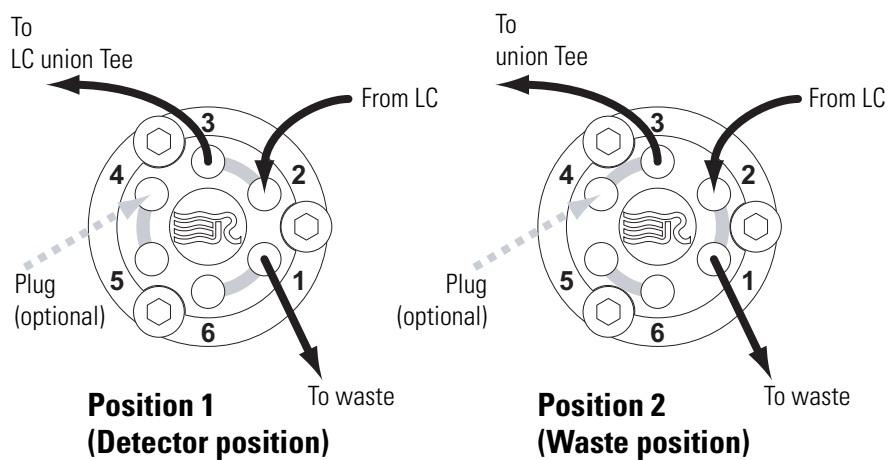
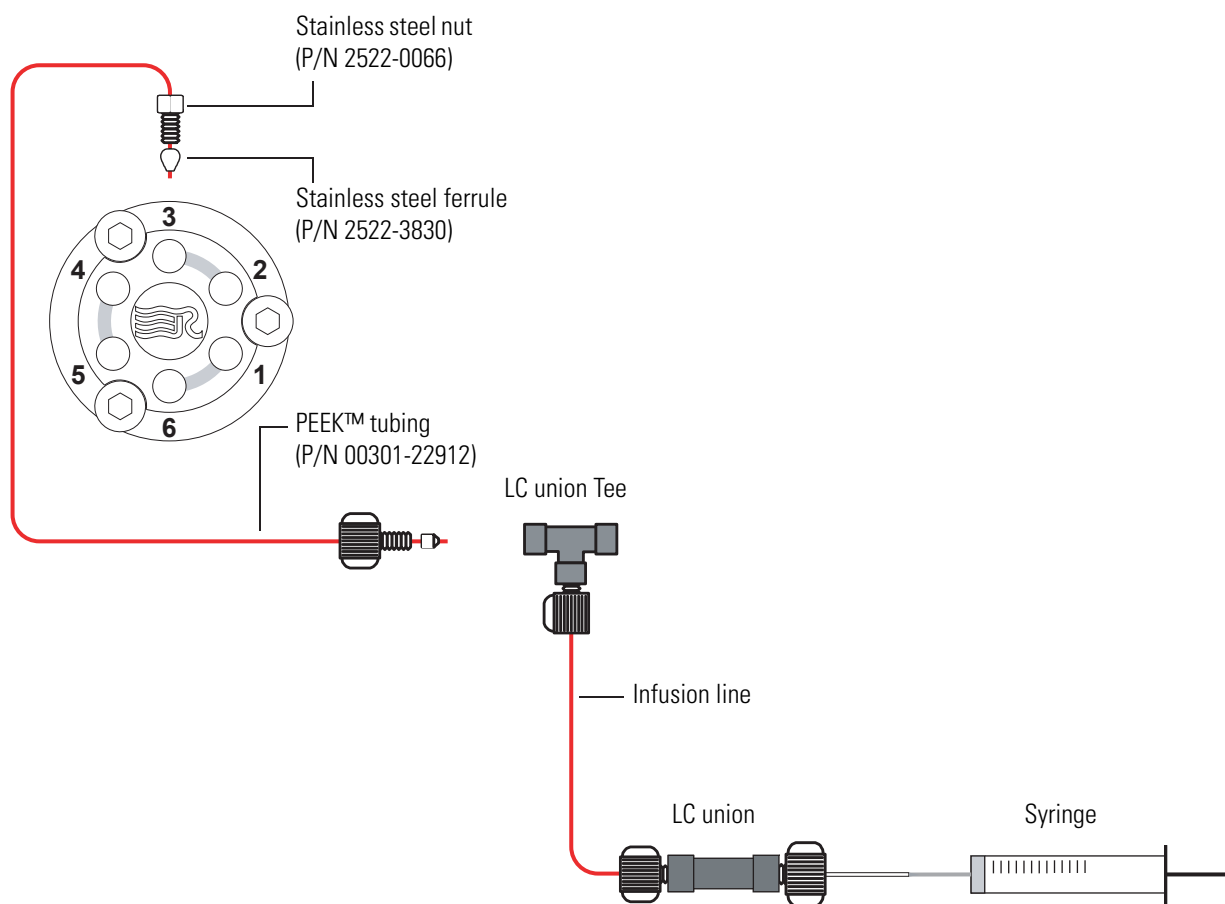

Figure 5-11. Six-port switching valve connections
Figure 5-12. Connecting the LC union to the union Tee
2. With a fingertight fitting and a ferrule, connect the other end of the tubing to the free end of the union Tee. See Figure 5-11 and Figure 5-12.
1. With a fingertight fitting and a ferrule, connect a length of PEEK™ tubing to port 2 of the switching valve. Figure 5-11 on page 5-27 shows the ports of the switching valve.
1. With a fingertight fitting and a ferrule, connect a length of red PEEK™ tubing to port 1 of the switching valve. Figure 5-11 on page 5-27 shows the ports of the switching valve.